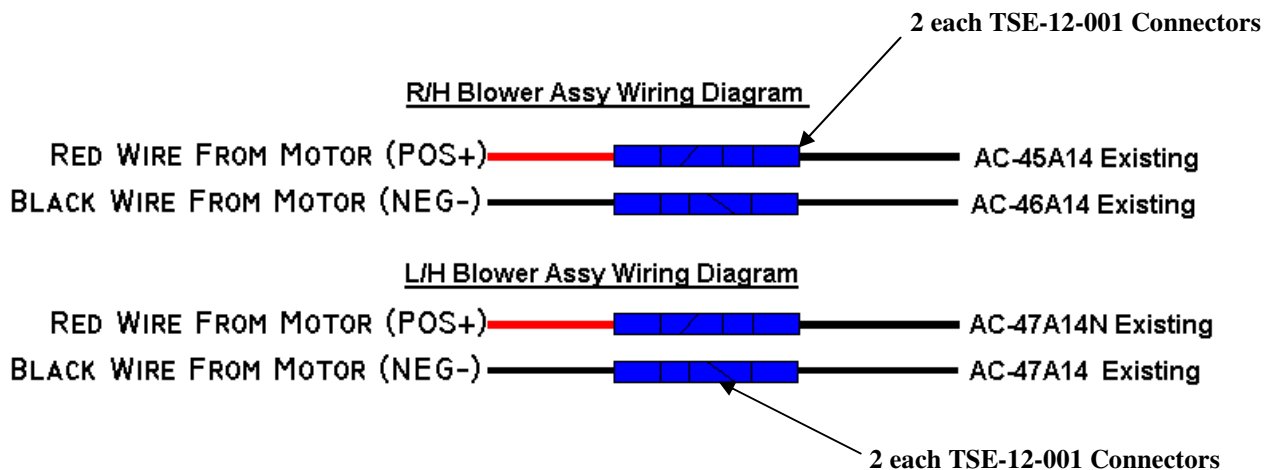

Figure 2.0 Blower electrical connections
7. Splice new motor assembly into existing wiring using 2 each TSE-12-001 Connectors. (Figure 2.0).